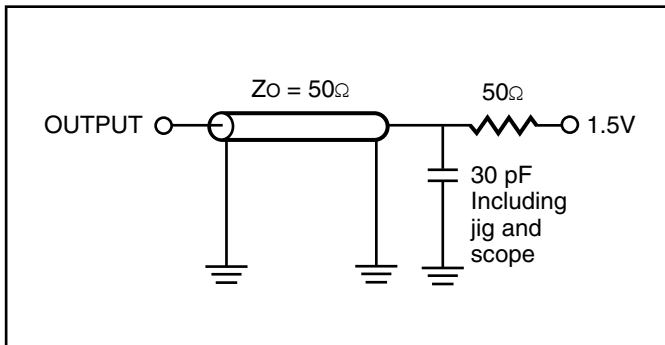

Figure 1.
| Output Load | See Figures 1 and 2 |
- Test conditions and output loading conditions are specified in the AC Test Conditions and AC Test Loads (Figure 1).
1. Test conditions and output loading conditions are specified in the AC Test Conditions and AC Test Loads (Figure 1).